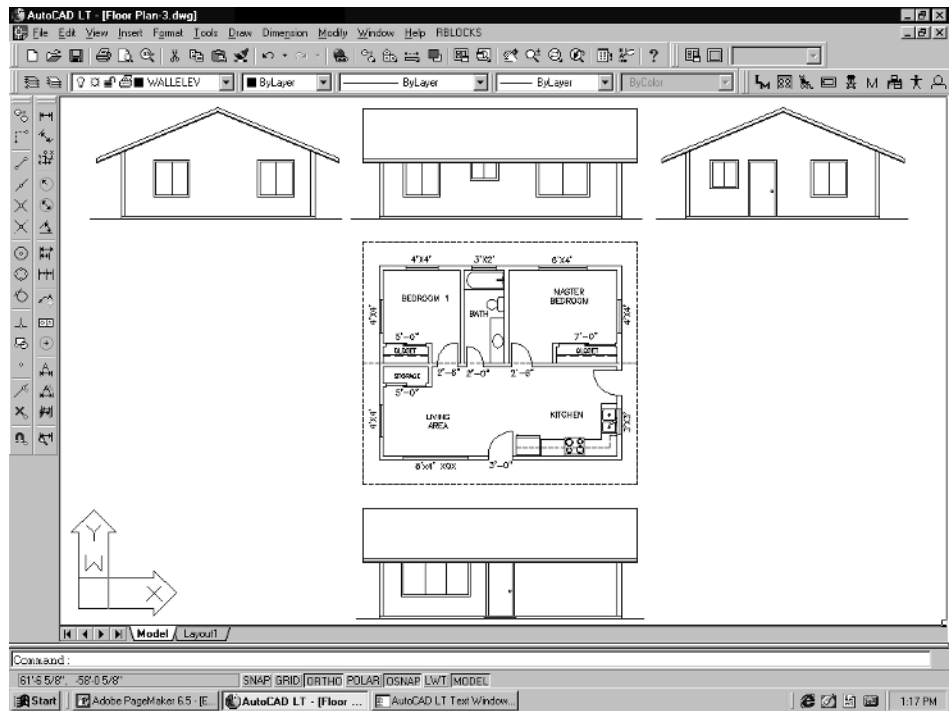

Figure 4-45
10. **Zoom|Out** so that you can see all four elevations, shown in Figure 4-45.